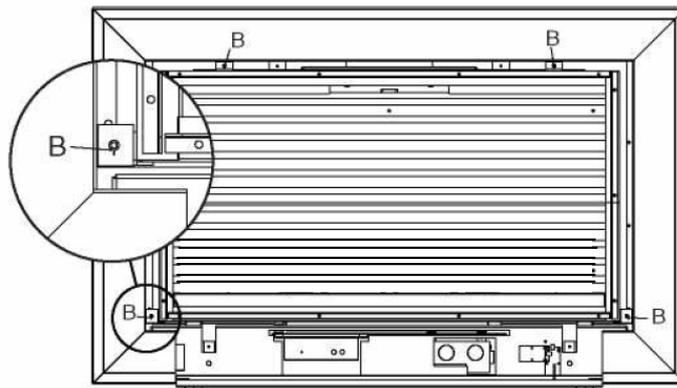

Fig. 7
- 3) Remove the back panel by loosening the screws B (see fig. 7).